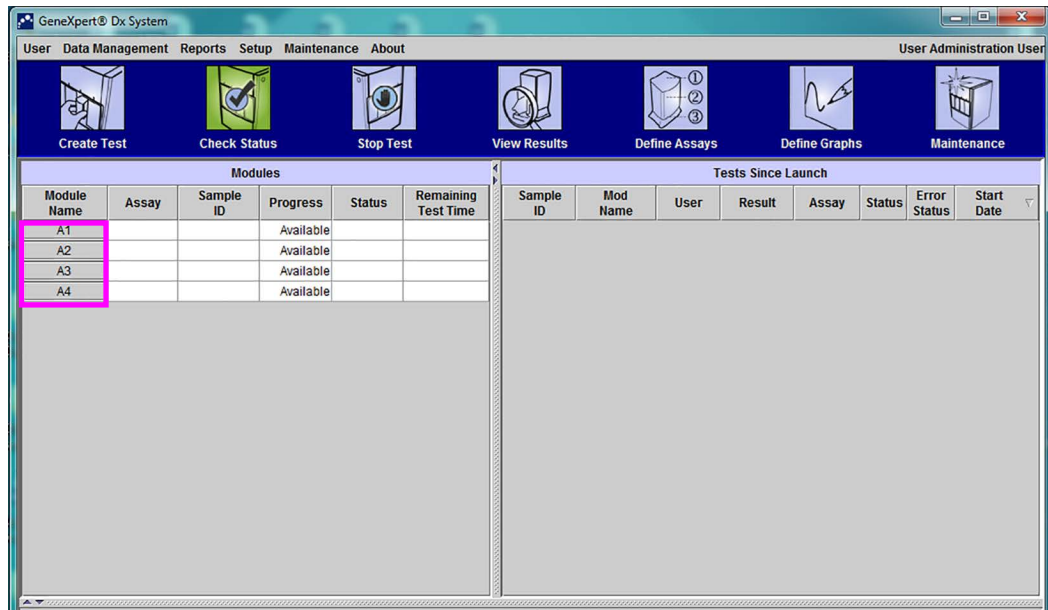

Figure 2-41. GeneXpert Dx System Window at System Restart
7. Click **Close** to close the Assign Instrument Letter dialog box (see Figure 2-41). The Assign Instrument Letter dialog box will indicate the new instrument letter assignment for the modules.